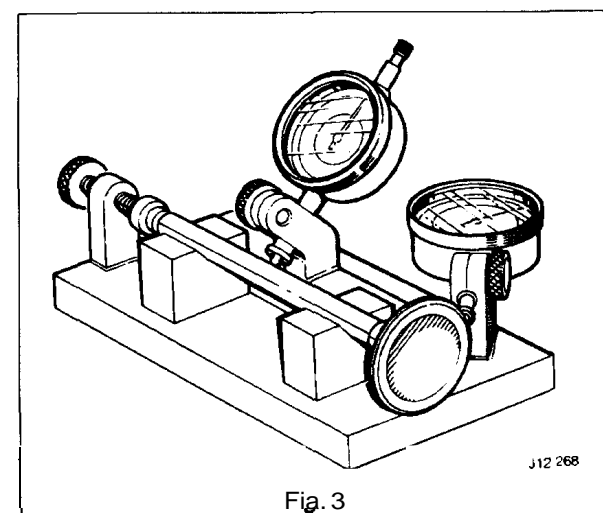

Fig. 3
- After cleaning and polishing each valve, examine the stems for straightness and wear, using a suitable dial gauge and vee-block see example at Fig. 3.